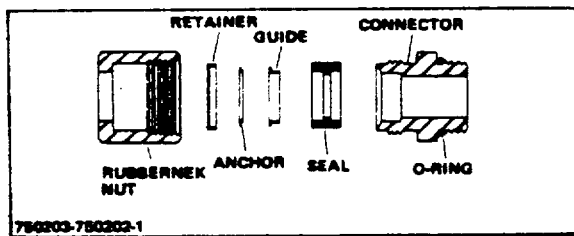

Figure 3-1. Rubberneck Fitting Assembly
2. Assemble Rubberneck fitting(s) to cylinder using Figure 3-1, but do not tighten Rubberneck nut.